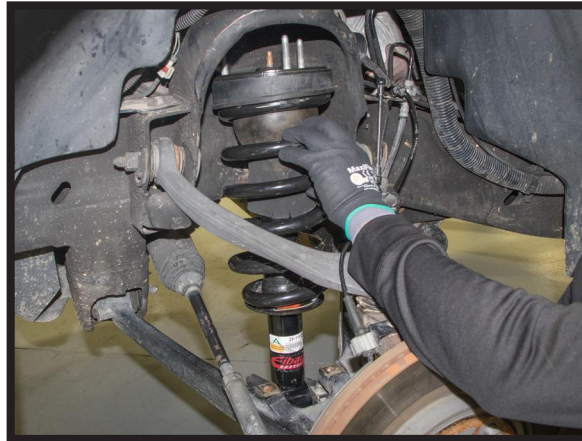

FIGURE 38
1. INSTALL THE COIL STRUT INTO THE VEHICLE. (FIGURE 38)